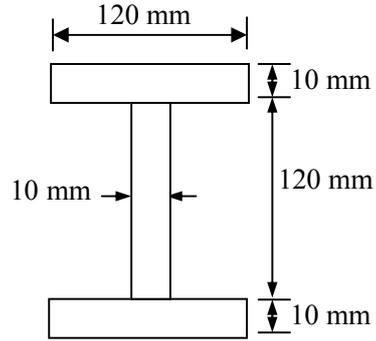

Fig. 6 Que 3(a) OR
- Q.3** (a) A section of a beam shown in **Fig. 6**, has moment of inertia about neutral axis is  $11.6 \times 10^6 \text{ mm}^4$ . The section is subjected to shear force of 14.5 kN. Determine value of maximum shear stress on the section. **04**